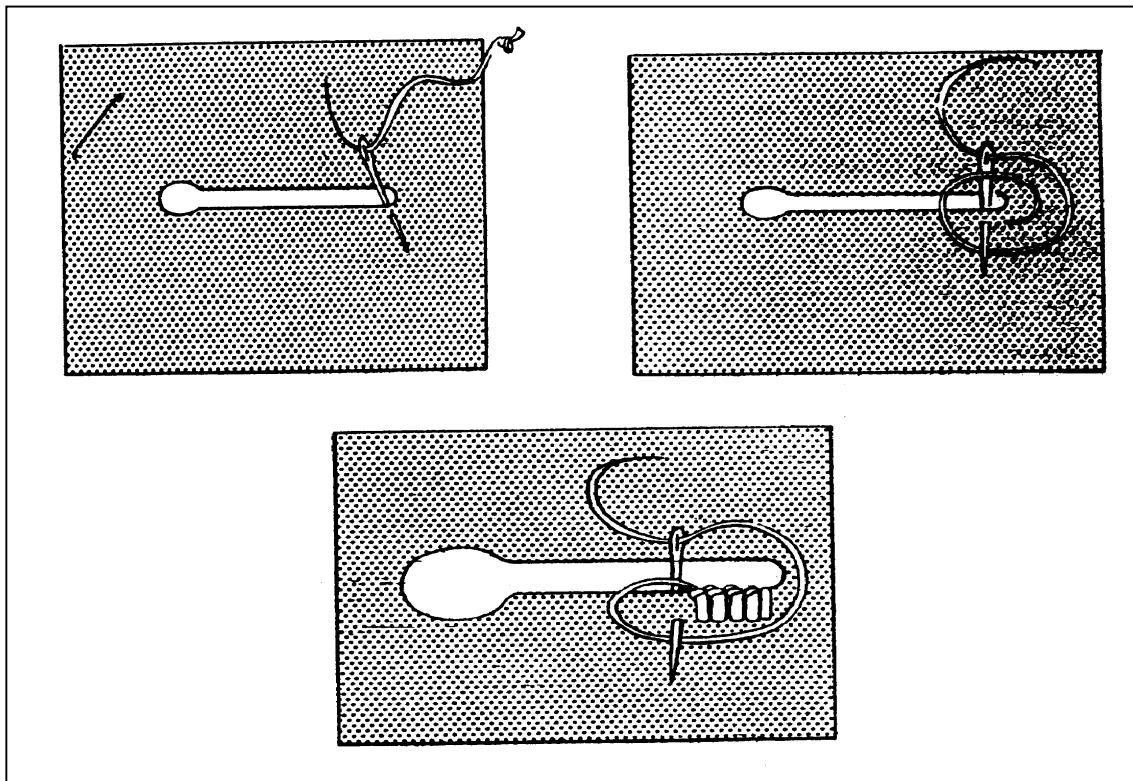

Figure 2-9. Buttonhole stitch
f. Buttonhole Stitch. The buttonhole stitch (Figure 2-9) is used to finish and reinforce the raw edges of buttonholes and eyelets. To make a row of buttonhole stitches--
- (1) Stick the needle up through the cloth $1/16$ to $1/8$ inch away from on edge of the buttonhole.
(2) Loop the thread in a circle.
(3) Stick the tip of the needle down through the circle and through the slash of the buttonhole.
(4) Stick the tip of the needle up through the cloth as close as possible to the last point where the needle came up. At the same time, take care to bring the needle up through the circle of thread.
(5) Draw up the needle and thread carefully so that a purl (a small, tight loop) forms on the edge of the slash.
(6) Repeat the stitch around the outside of the buttonhole. Keep the stitches close and even. Keep the purl on the edge of the slash.